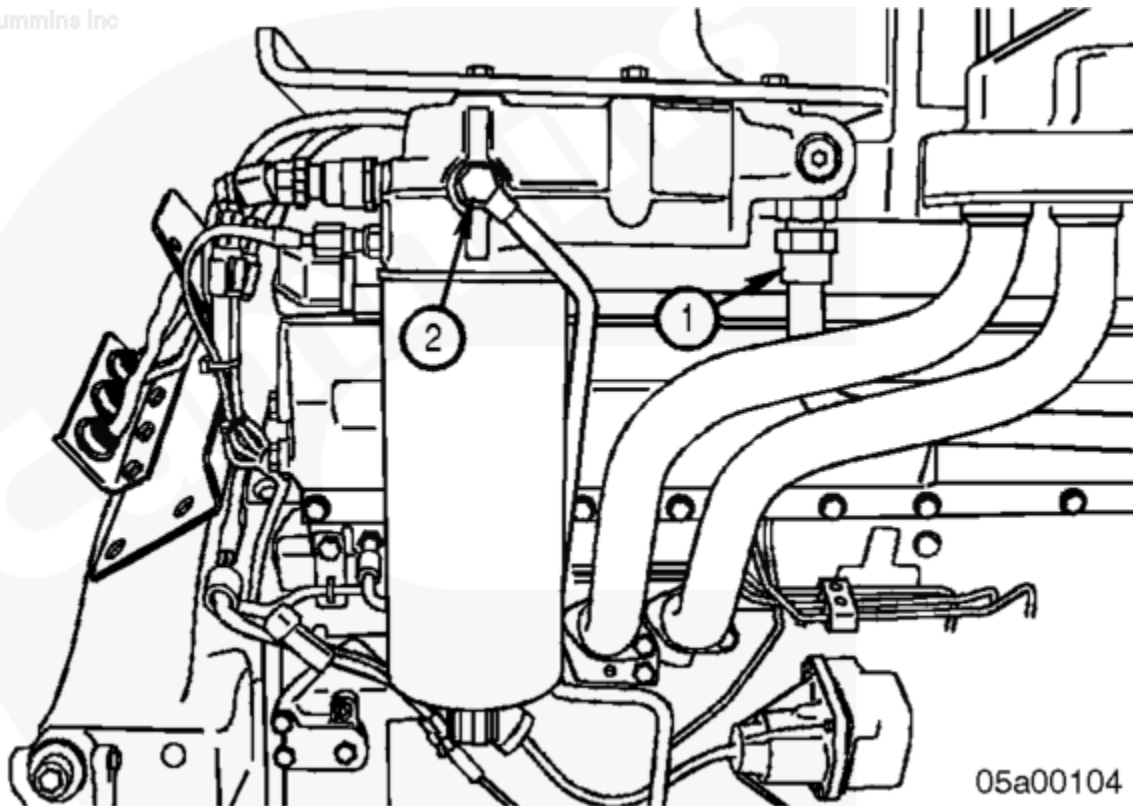

Figure 2, Fuel Lines Connected to Fuel Filter Head Assembly.
4. Connect fuel lines (Figure 2, Item 1) and (Figure 2, Item 2) to fuel filter head assembly. See corresponding Service Manual. Reference Procedure 005-045 in Section 5.